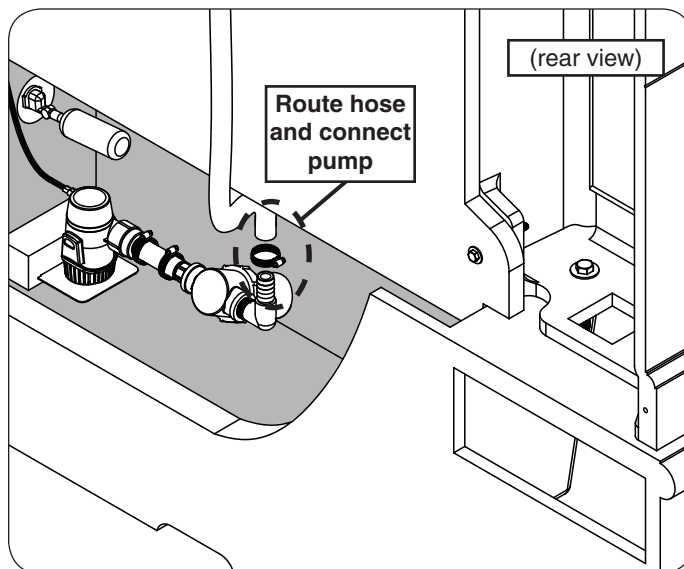

Fig. 24-1 Route hose and connect pump
1. Route the water hose (connected to rear wall) into the burner trough area (see Fig. 24-1).
(See Fig. 24-1)